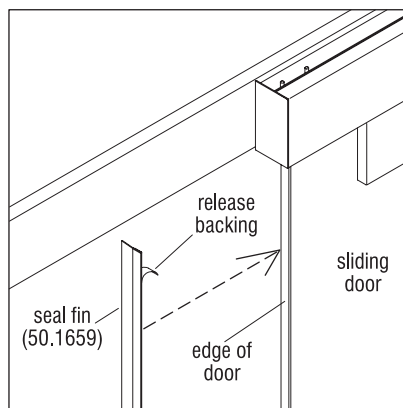

Figure 1
2. Once fin is cut, install seal fin (50.1659) on backside of door leaf (Figure 1). Peel release backing off of fin then attach to backside edge of door leaf. Make sure fin is above adjustable bottom (Figure 1).